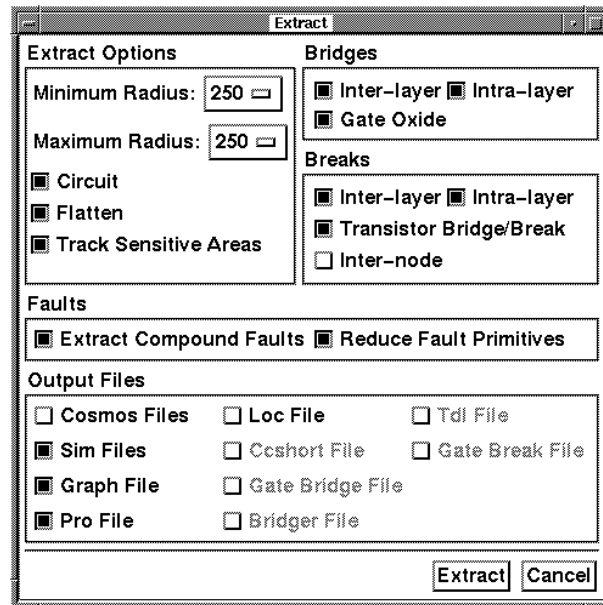

Figure 9.6: Extract Options Window
**E**xtract... This menu item pops up a window displaying the minimum and maximum defect radius and buttons for the extract options. These options are equivalent to their command-line versions. Figure 9.6 shows the **E**xtract window.